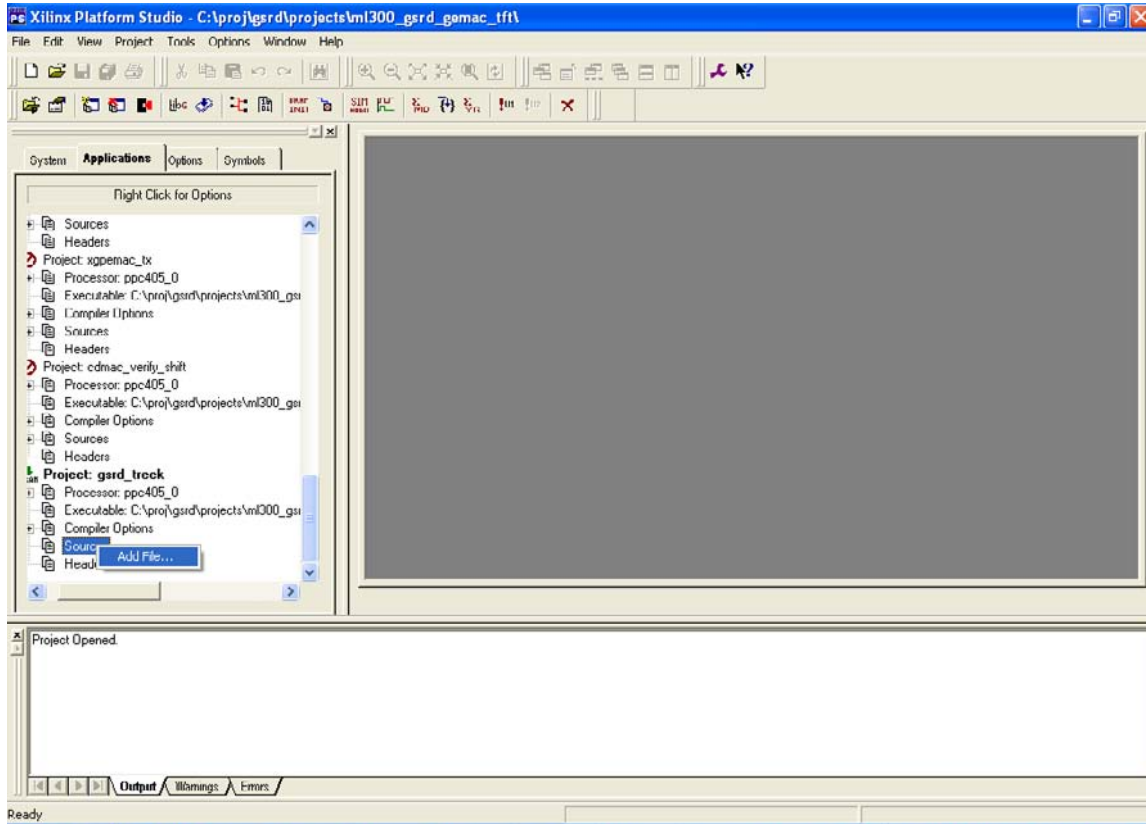

Figure 5: Add a File
9. Right-click on Sources for the newly created `gsrd_treck` software project and choose “Add File” (Figure 5).